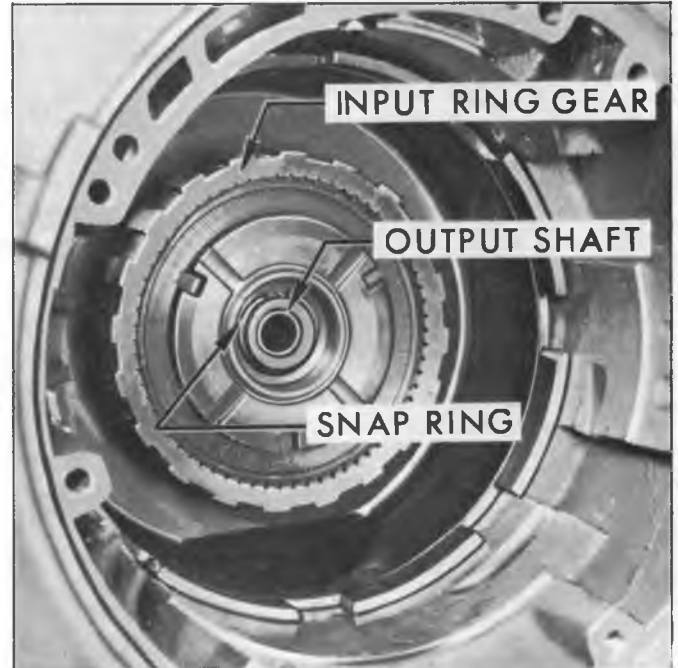

Fig. 35M--Removing Output Carrier to Output Shaft Snap Ring
9. Remove output carrier to output shaft snap ring (fig. 35M).